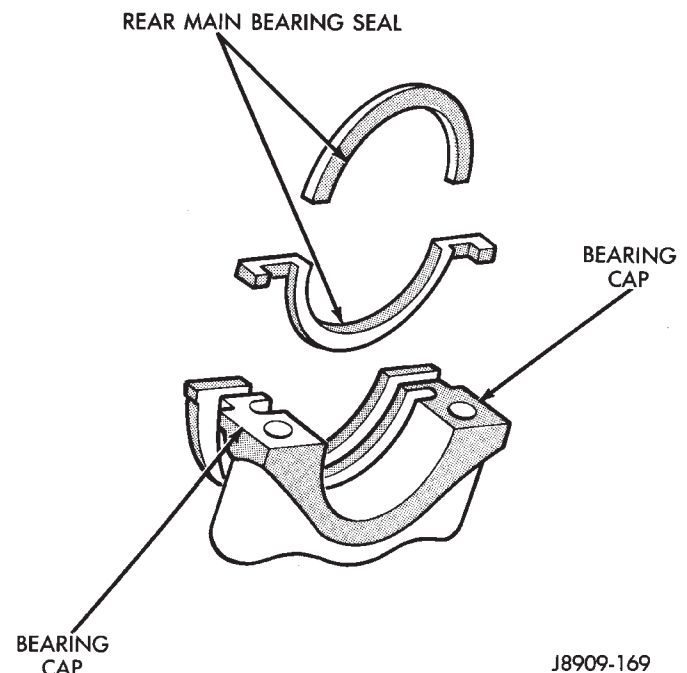

Fig. 7 Rear Main Bearing Oil Seal
(1) Wipe the seal surface area of the crankshaft until it is clean.
(2) Apply a thin coat of engine oil.
(3) Coat the lip of the seal with engine oil.
(4) Carefully position the upper seal into the groove in the cylinder block. The lip of the seal faces toward the front of the engine.
(5) Place the lower half of the seal into bearing cap No.7 (Fig. 7).
(6) Coat the outer curved surface of the lower seal with soap and the lip of the seal with engine oil (Fig. 7).